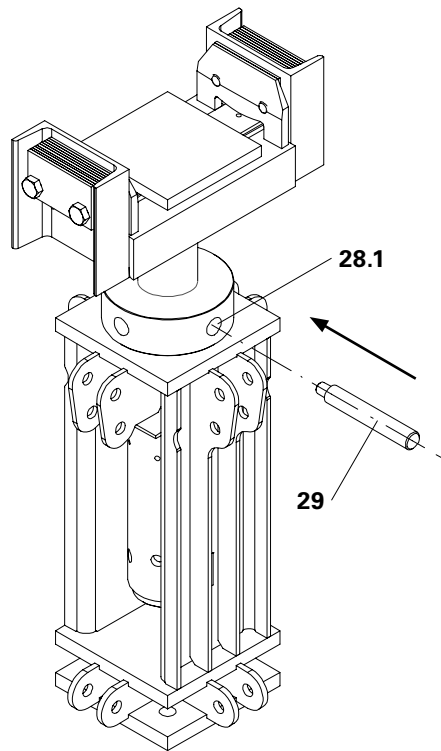

Fig. D1.01
1. Insert the Mounting Shaft VST (29) into the spindle nut (28.1). (Fig. D1.01)